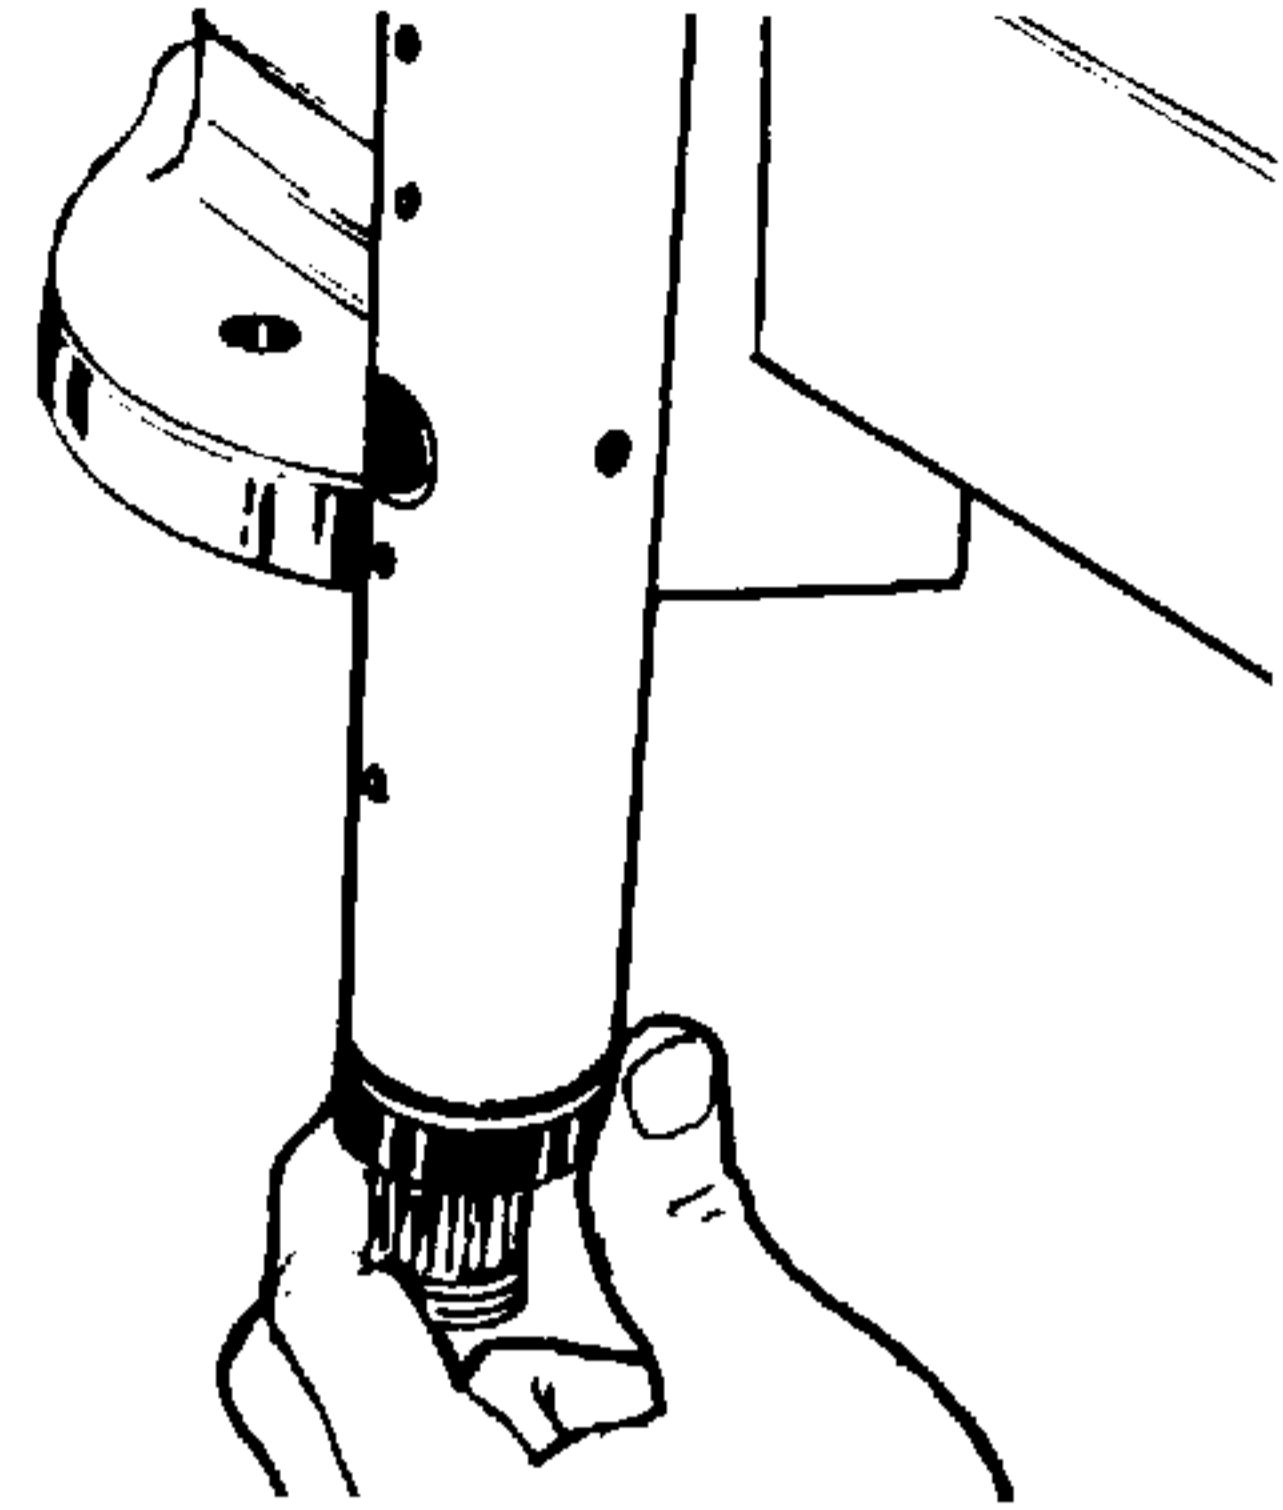

Figure 4-92. Installing Dust Seal on Upper Cover and Tube Assembly.
43. Apply a small amount of clean grease on the lip of the dust seal (37, Figure 4-1). Install the seal onto the upper cover and tube assembly (35). See Figure 4-92.